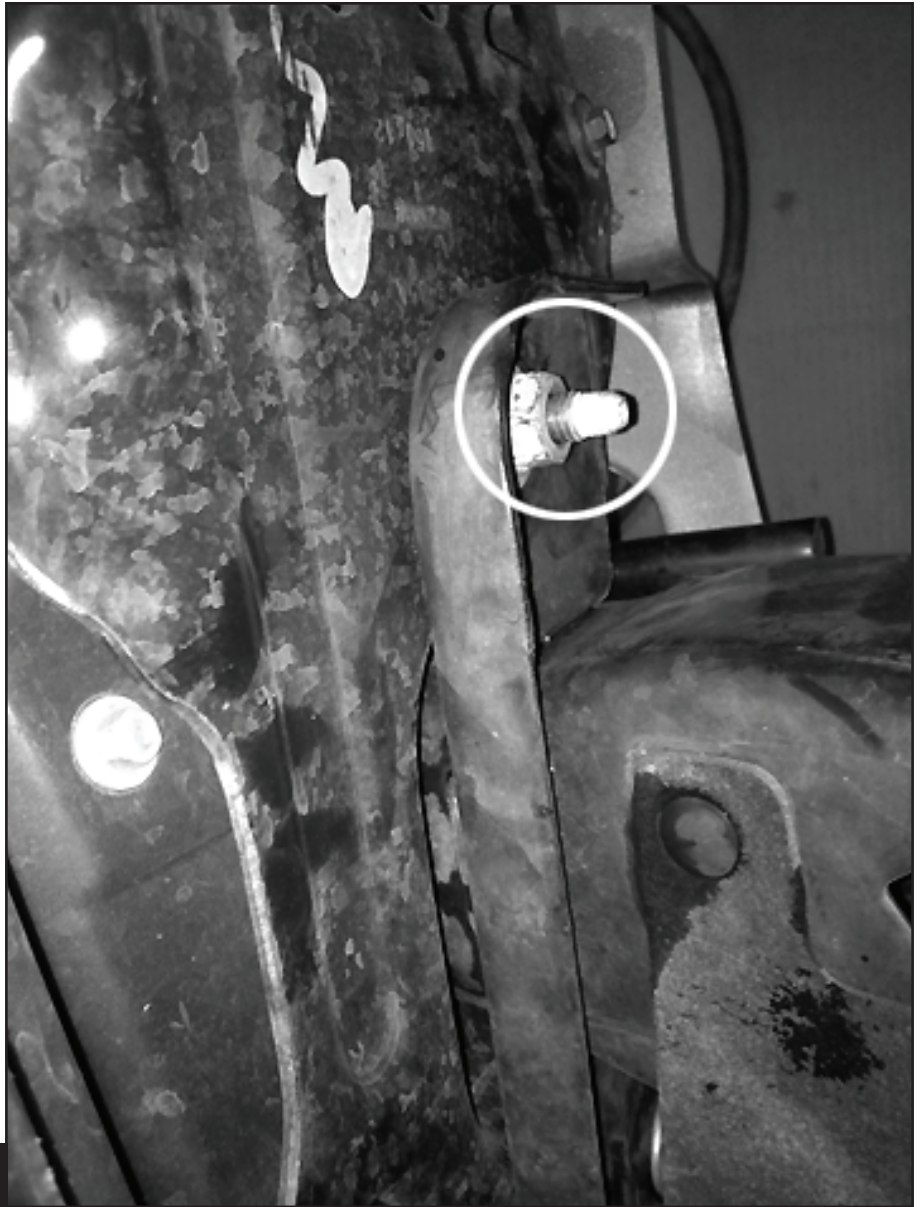

Fig 5
5. Remove (4) bolts that go through front bumper mount and the frame. These may be discarded (**Fig 5**).